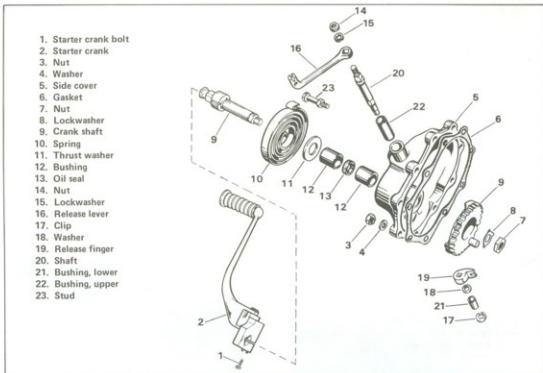

Figure 7-31. Side Cover — Kick Starter — Exploded View
2. Refer to Figure 7-31. Remove the starter crank bolt (1) and starter crank (2).
3. Remove the side cover mounting nuts (3) and washers (4). Remove the side cover (5) and gasket (6).
4. Clamp the crank shaft (9) in a vise. Bend the lockwasher (8) tab away from the nut (7). Remove the nut and lockwasher.
6. See Figure 7-31. Place the side cover in a vise and drive the shaft (9) out of the cover using a rawhide mallet. Remove the thrust washer (11).
7. Remove the nut (14) and lockwasher (15). Pull the release lever (16) off using the ALL-PURPOSE CLAW PULLER.
8. Remove the clip (17) and pull the release lever shaft (20) from the cover and remove the release finger (19) and washer (18).
6. See Figure 7-31. Install the lockwasher (8) and nut (7). Tighten the nut to 30-40 ft-lbs torque. Bend the lockwasher tab against a nut flat.